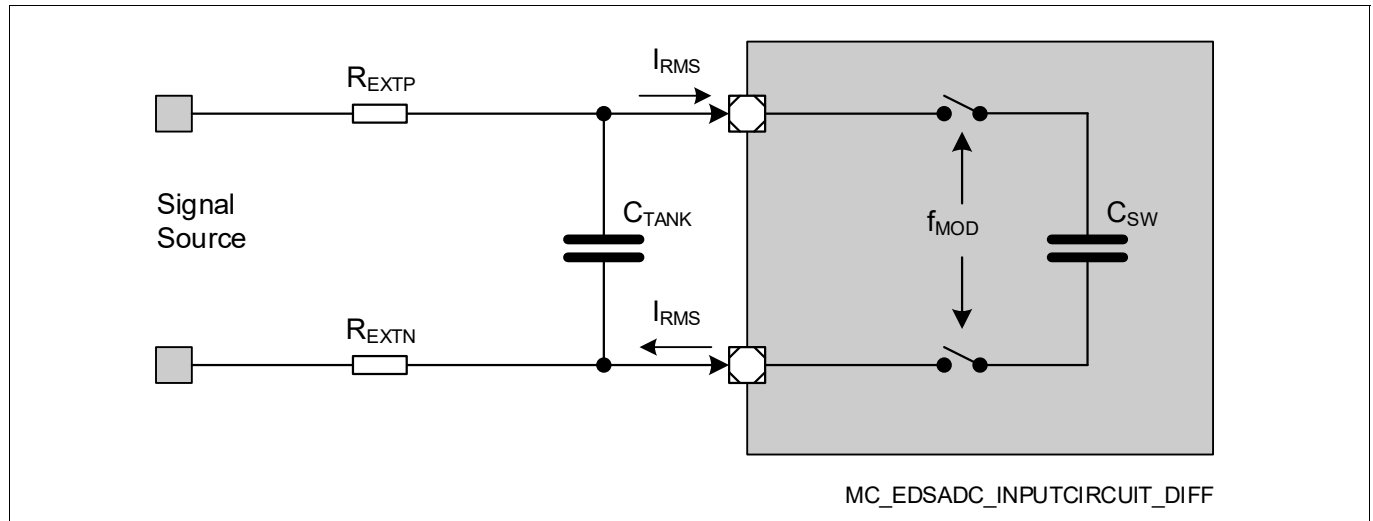

Figure 296 Differential Input Circuitry of a Channel
- Differential operation (see Figure 296):